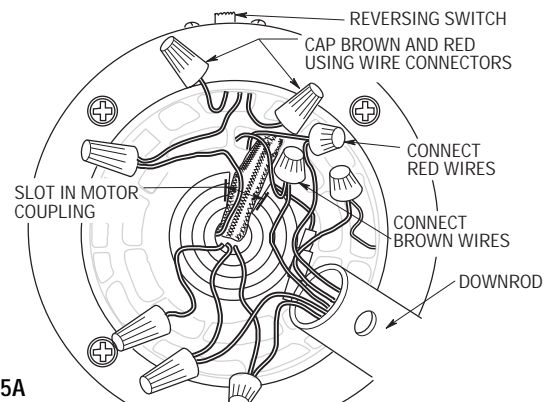

Figure 5A
9. Cap the red and the brown wires **from the reversing switch** using a wire connector on each wire (Figure 5A).
10. Using wiring connectors (supplied), connect the red and brown wires from the downrod to the red and brown wires **from the fan motor** (Figure 5A and 6A). Wires must be connected color-to-color.
- 11. Fold the wires from the downrod into the slot in the motor coupling (Figure 5A). Then slide the downrod down the wires and seat the downrod in the motor coupling.